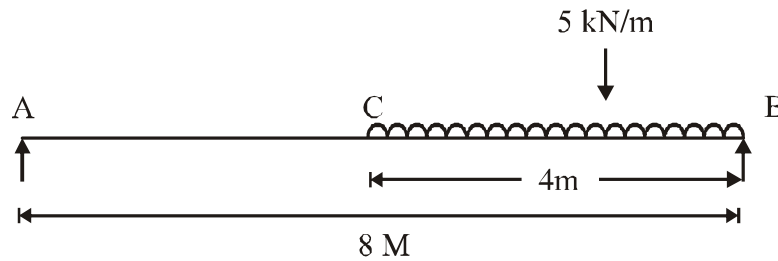

Fig. 2
8. A beam AB of 8m span is simply supported at the ends and is loaded as shown in Fig. 2. Determine :